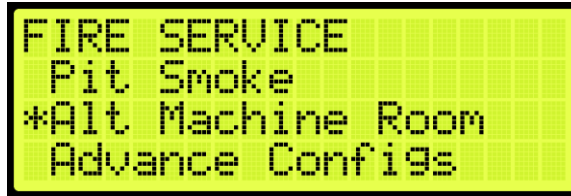

Figure 560: FIRE SERVICE Menu – Alt. Machine Room
2. From the FIRE SERVICE menu, scroll and select Alt. Machine Room (See Figure 560).
- Navigate to MAIN MENU | SETUP | FIRE (See Figure 560).
- From the FIRE SERVICE menu, scroll and select Alt. Machine Room (See Figure 560).